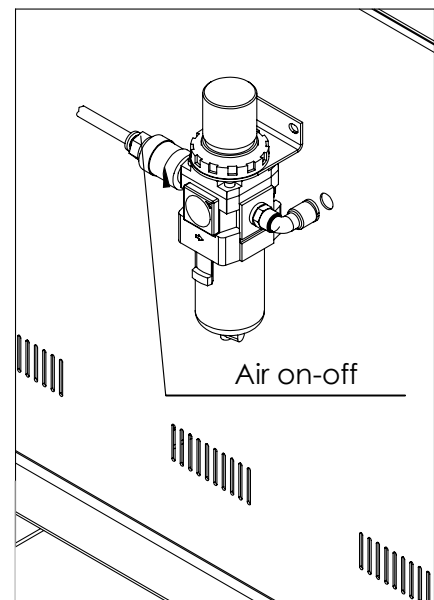

Figure.17
- b) Control that air adjusting arm of the machine is open. (Figure.17)
- a) Ensure that air adjusting arm of the machine is open. (Figure.17)
- b) Check that the machine is turned on the air. (Figure.17)